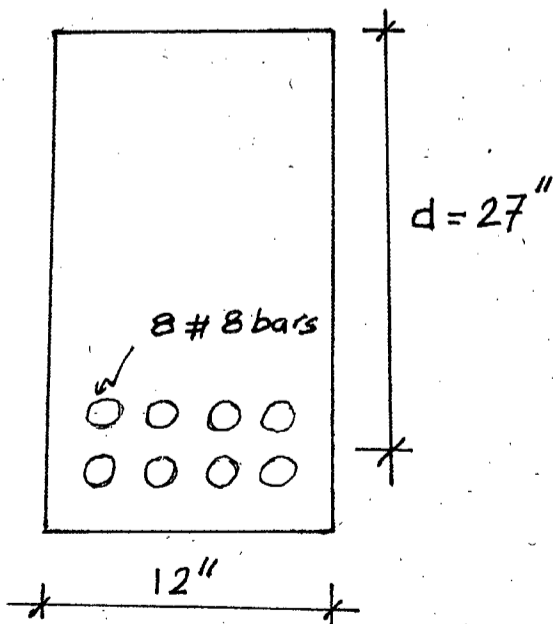

Fig. 3
(c) A rectangular beam has a width 12 in. and an effective depth 27 in. as shown in Fig. 3. It is reinforced with eight No. 8 bars in two rows ( $d = 27$  in.  $d_t = 28.5$  in.). If  $f_y = 60$  ksi and  $f'_c = 4$  ksi, what is the nominal flexural strength  $M_n$  and what is the maximum moment  $\phi M_n$  that can be utilized in the design? (13)